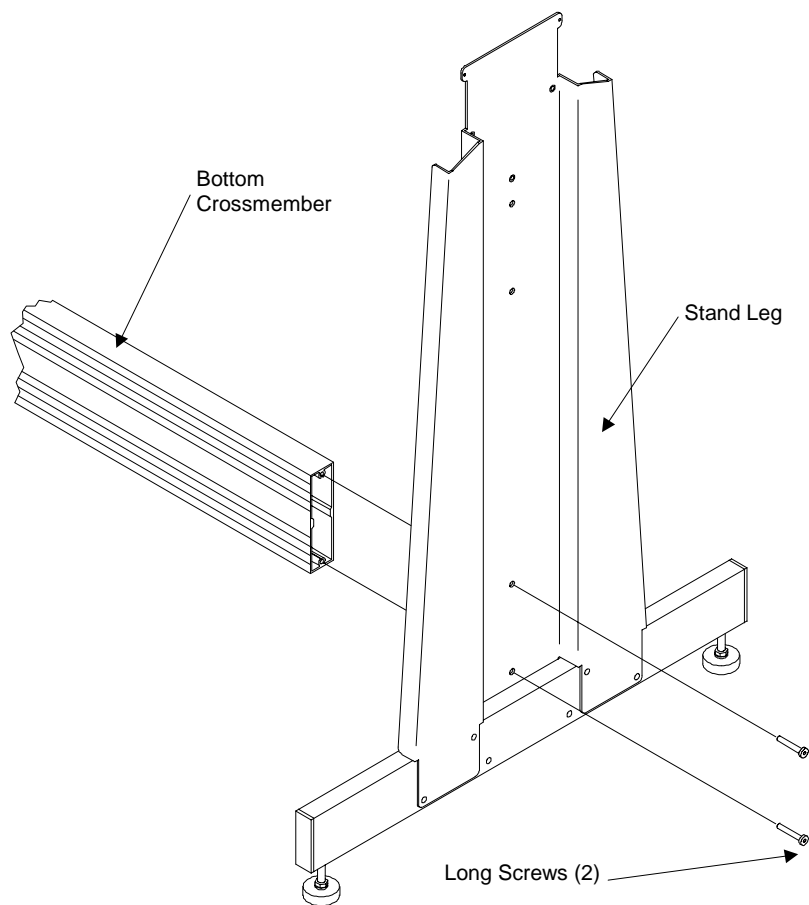

Figure 3. Attaching the Bottom Crossmember to a Stand Leg
3. Use two of the long screws and the hex wrench to attach the bottom crossmember to one of the stand legs. Refer to Figure 3.